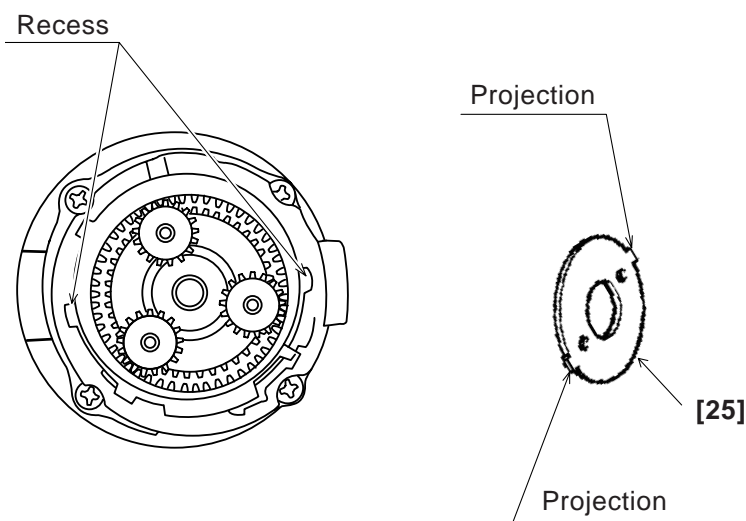

Fig. 7
- (iii) Install Washer (B) [25] in the Rear Case [17] with the projection of Washer (B) [25] engaged with the recess in the Rear Case [17], and turn Washer (B) [25] clockwise until it can turn no further. (See Fig. 7.)